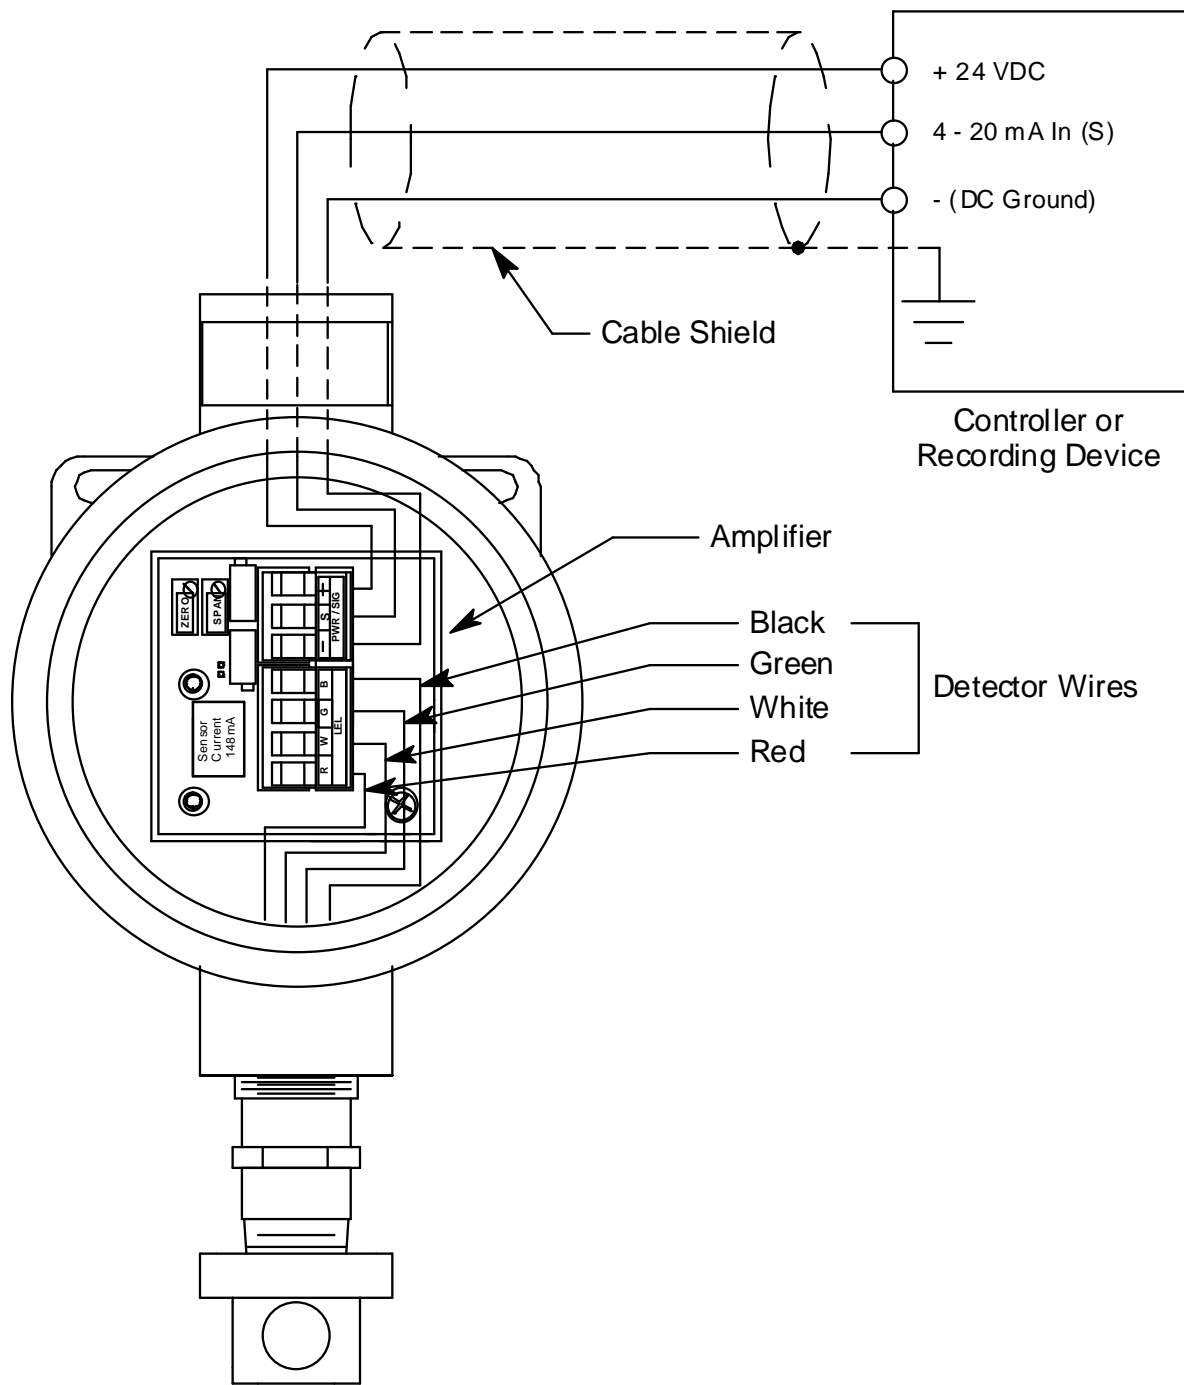

Figure 3: Wiring the Combustible Gas Transmitter to a Controller
4. The detector leads are factory wired. Verify that the detector leads are wired to the amplifier's detector terminal strip as shown in Figure 3.
7. Pull out the controller terminal strip, and connect the three wires to the terminal strip as follows (see Figure 3).
11. Connect the wires to the applicable detector/transmitter terminal strip at the controller as shown in Figure 3.
8. Connect the detector leads to the detector terminal strip as shown in Table 3 below and Figure 3 on page 6 of this manual.
9. Install the detector and controller terminal strips into their sockets on the new amplifier as shown in Figure 3 on page 6 of this manual. If controller leads or detector leads were removed during this procedure, refer to Table 4 and Table 5 below.